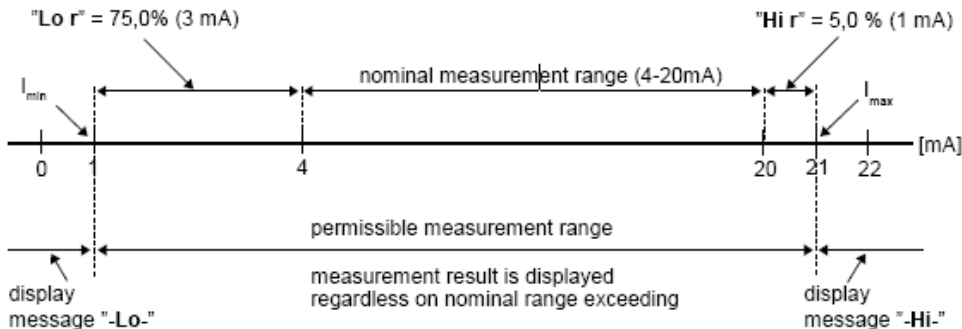

Figure 7.1. Example of definition of permissible range of input signal – “Lo r” and “Hi r” parameters (“4-20” mode)
- “Lo r”**, **“Hi r”** these parameters define the expansion of nominal range in percent. They determine the permissible range of input signal (Figure 7.1).